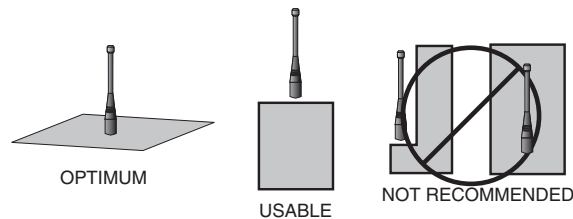

Figure 24: Ground Plane Orientation
2. Optimum performance is obtained from a  $\frac{1}{4}$ - or  $\frac{1}{2}$ -wave straight whip mounted at a right angle to the ground plane (Figure 24). In many cases, this isn't desirable for practical or ergonomic reasons, thus, an alternative antenna style such as a helical, loop or patch may be utilized and the corresponding sacrifice in performance accepted.